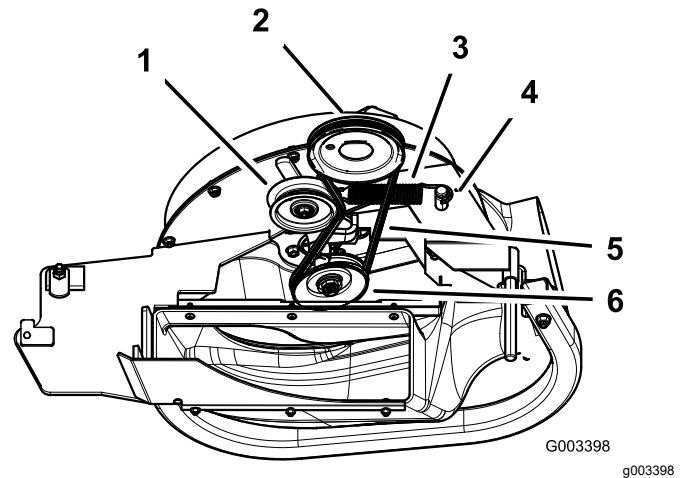

Figure 11
1. Install the belt around the blower pulley (Figure 11).
2. Install the spring to the idler arm and the peg on the blower assembly (Figure 11).